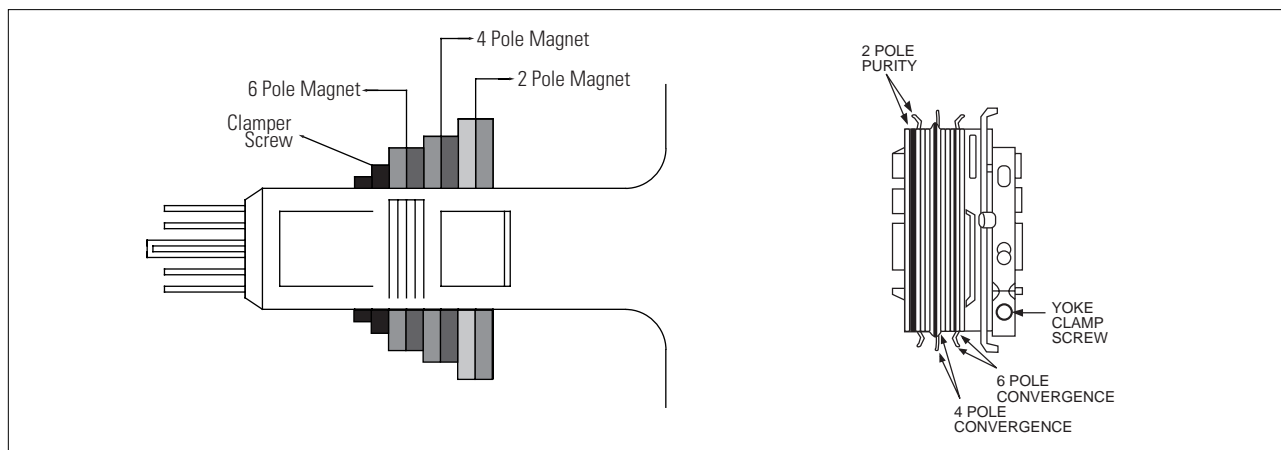

Fig. 4-2 Convergence Magnet Assembly
3. Plug the convergence yoke into the CRT and set in as shown in Fig. 4-2.